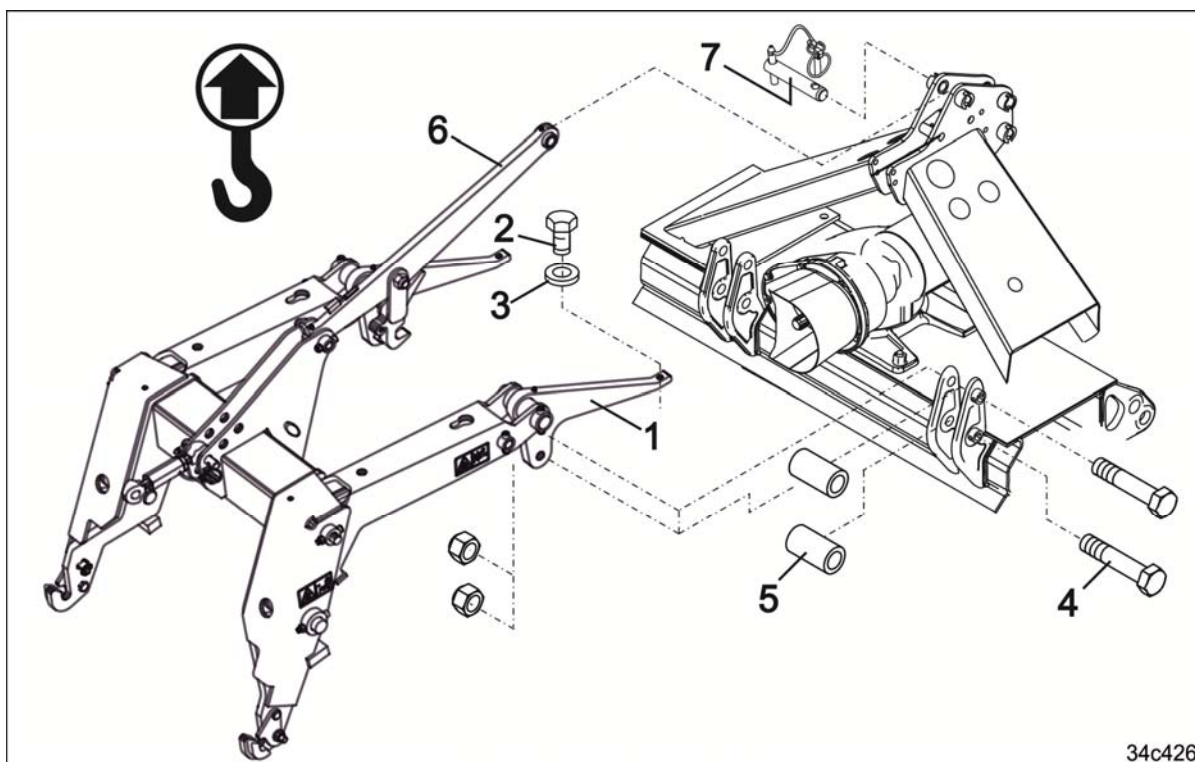

Fig. 88
5. Screw the bracket (Fig. 88/1) to the soil tillage implement using
- o two implement bolts (Fig. 88/2) with washers (Fig. 88/3)
- o 4 bolts (Fig. 88/4) with 4 spacer sleeves (Fig. 88/5).
6. Position the upper link (Fig. 88/6) with a pin (Fig. 88/7) and secure with a linch pin.